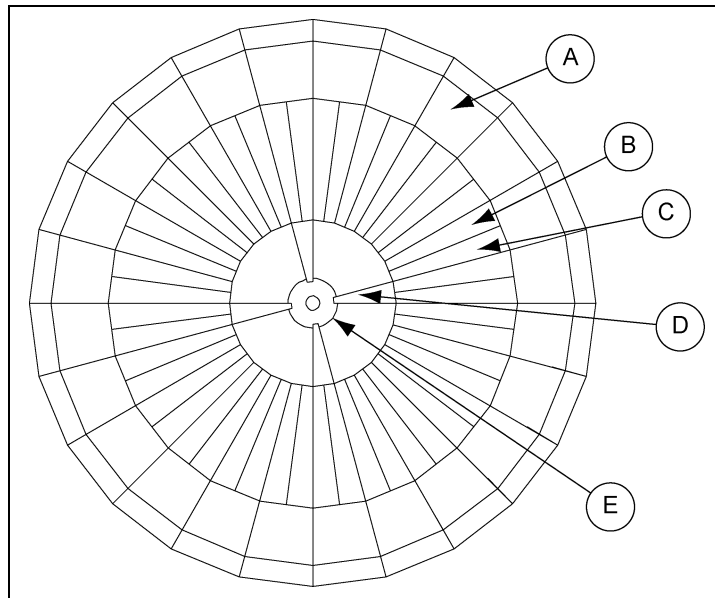

Figure 7I Hopper Panel and Discharge Collar Assembly
Step 3: Once the middle panels are installed the bottom hopper panels and discharge collar may be attached with 1/2" x 1" bolts at four (4) opposing points as shown in Figure 7I on Page 26. Complete this assembly by laying the remaining panels - moving around in one direction and lapping all sheets the same way. *Do not tighten bolts until all hopper panels are attached to each other, the compression ring, splice plates and discharge collar.*